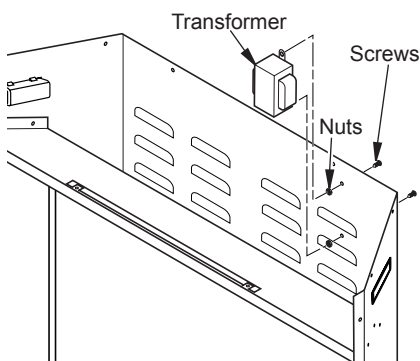

Figure 14 - Removing Transformer
3. Remove screws and nuts from firebox surround to remove transformer (see Figure 14).